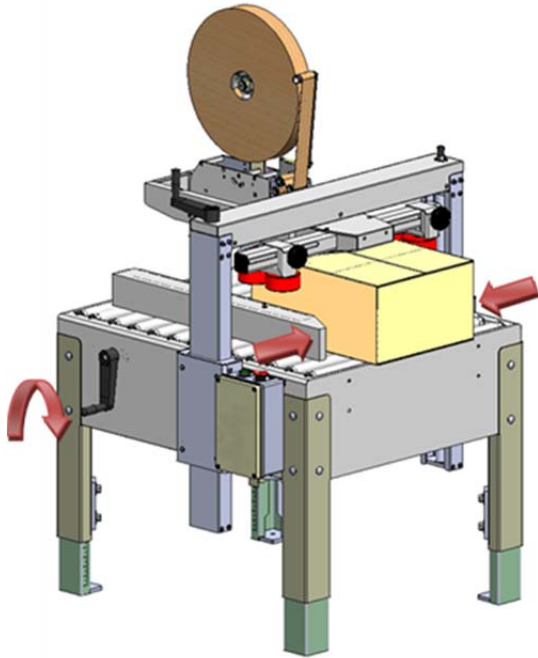

Figure-33
- a. Turn Case Width Handle As Shown in **Figure-33** Until Side Drive Belts Contact Case. Side Drive Belts Should Contact The Case Firmly Enough So Case Processes Smoothly But Not So Firm As To Score The Side Of The Case.